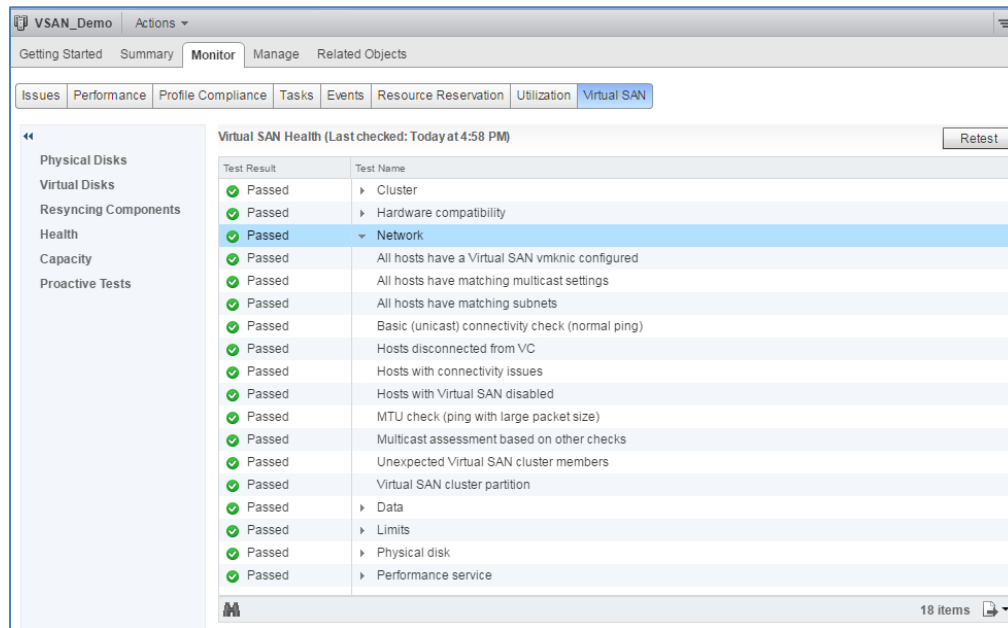

Figure 28 Virtual SAN health monitoring test results
4. Verify all health tests pass. See Figure 28.